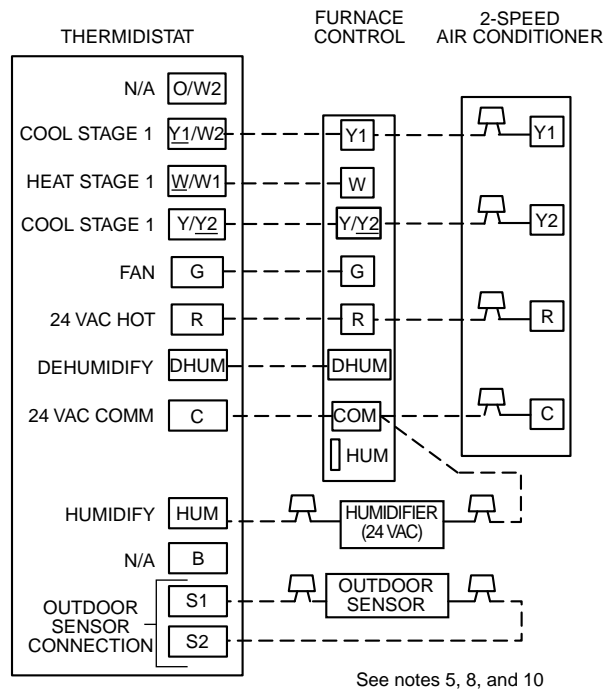

Fig. 17—Single-Stage Furnace with 2-Speed Air Conditioner
c. Two-Speed Outdoor Unit with Thermidistat—See figures 17 and 19.